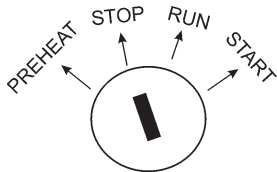

Figure 72. Engine Ignition Switch (Stop)
4. Turn the **Ignition Key Switch** (Figure 72) to the "OFF" position.
2. Turn the **ignition switch key** to the "STOP" position (Figure 72).